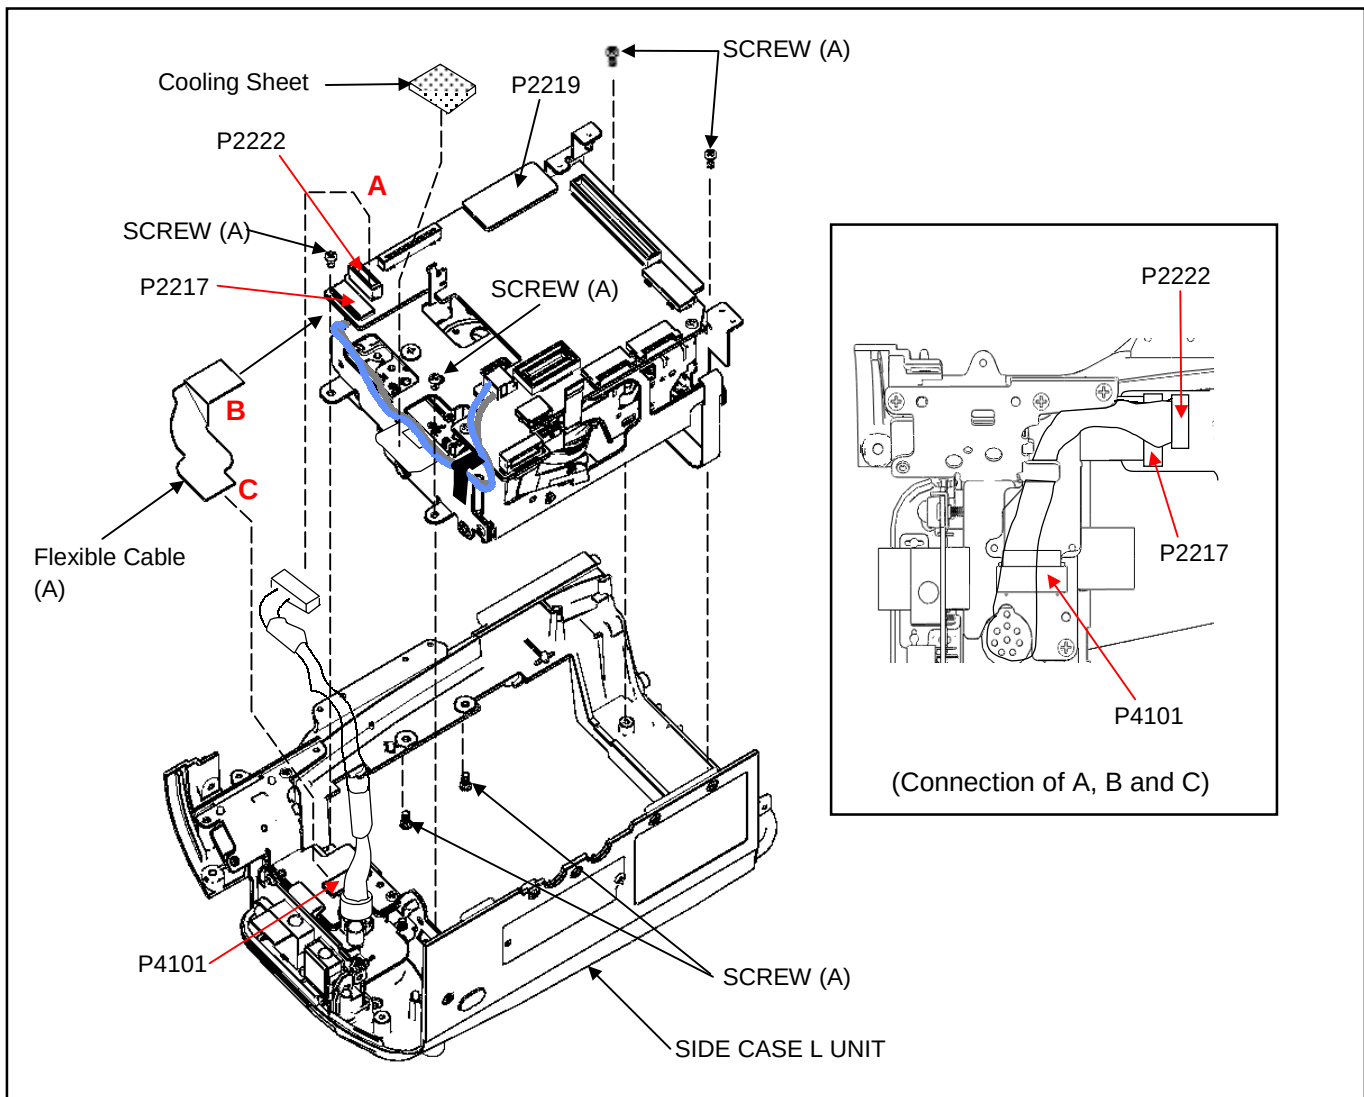

Figure 11-1
9. Disconnect the connector P2219 and P2222 on VTR C.B.A. as shown in figure 11-1.
10. Disconnect the connector P2217 on VTR C.B.A. and P4101 on SIDE JACK C.B.A., then remove the flexible cable (A) as shown in figure 11-1.
11. Unscrew the 6 screws (A) and remove the Unit (Mechanism & VTR C.B.A.) as shown in figure 11-1.
NOTE: MECH Attachment Frame requires replacement, make sure to move the Cooling Sheet to the new MECH Attachment Frame. See figure 11-1.